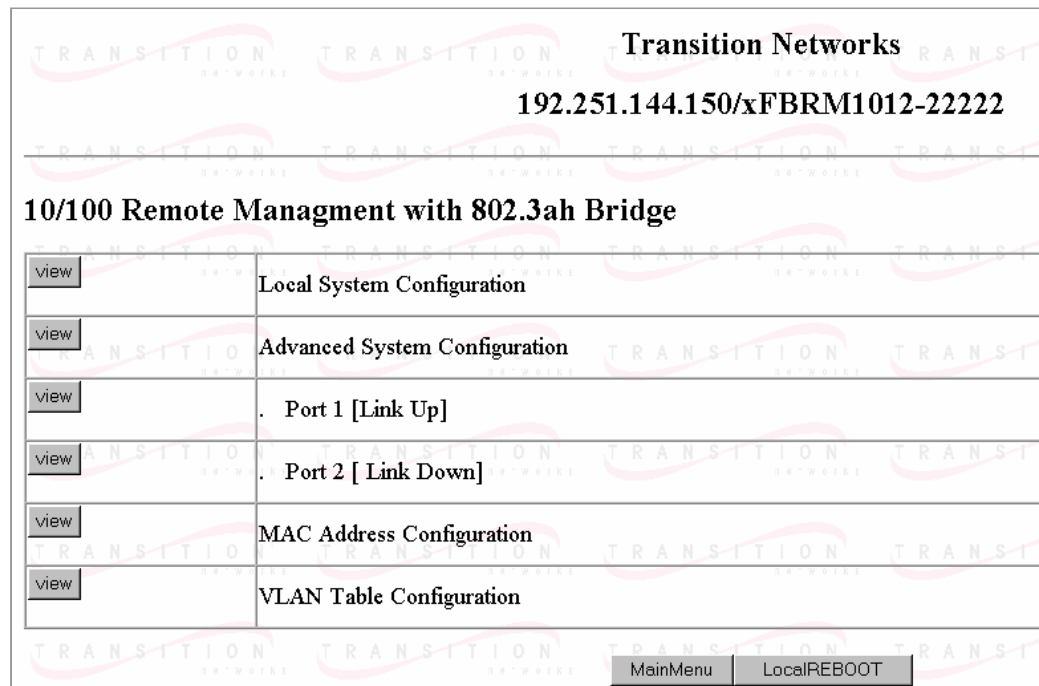

Figure 42: FBRM/BFFG Main Menu
5.	Press the ENTER key to launch the FBRM/BFFG main menu, as shown in Figure 42.